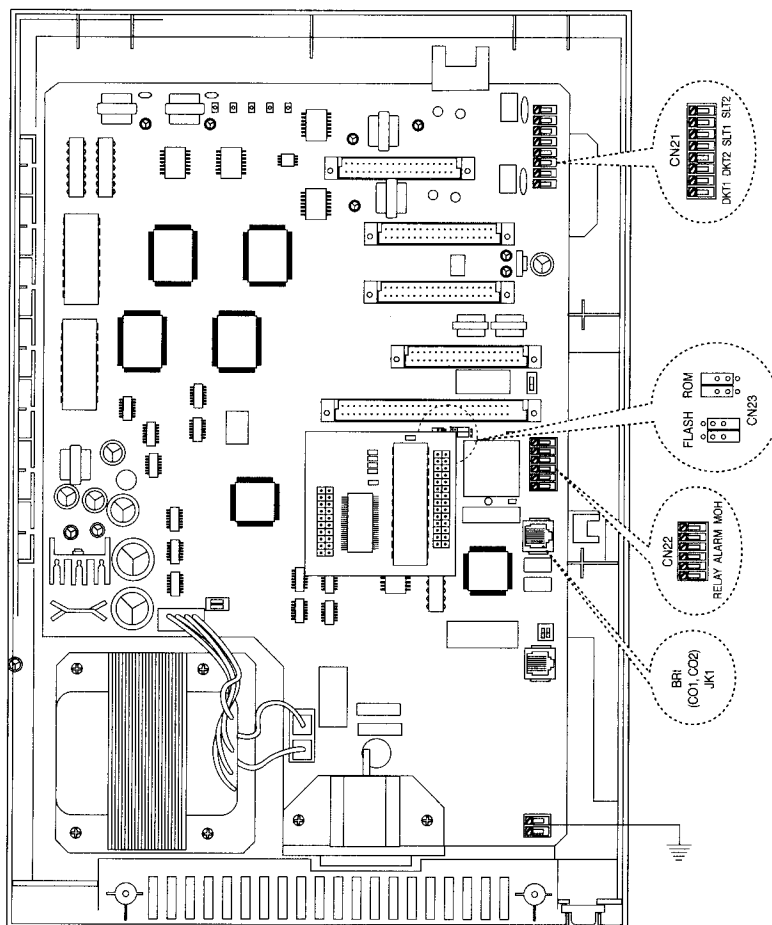

Figure 3.4.2 MBU & MEMU Installation
The MBU is installed in the KSU default. It comprised of main processor, two(2) Digital Terminal interface circuits, two(2) Single Line Telephone interface circuits, five(5) board slots for optional boards, memory, real-time clock circuit and data communication circuit which transmits and receives to/from other boards. The MBU may be equipped with one daughter boards; a MEMU for FLASH MEMORY & RAM expansion . Refer to Figure 3.4.2.
The MEMU must be installed on the MBU for the normal operation of the system and following specifications. Refer to Figure 3.4.2.